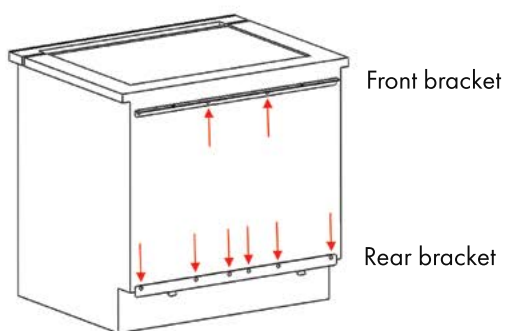

Figure 4
2. Remove the screws from the front bottom of your microwave. Using two of those screws, secure the front bracket to the bottom of the microwave, ensuring the lip of the bracket is extending down and facing you. Next, remove the screws from the back bottom of the microwave and fasten the rear bracket, ensuring the two small lips are extended down and facing back (see *Figures 4 and 5*).